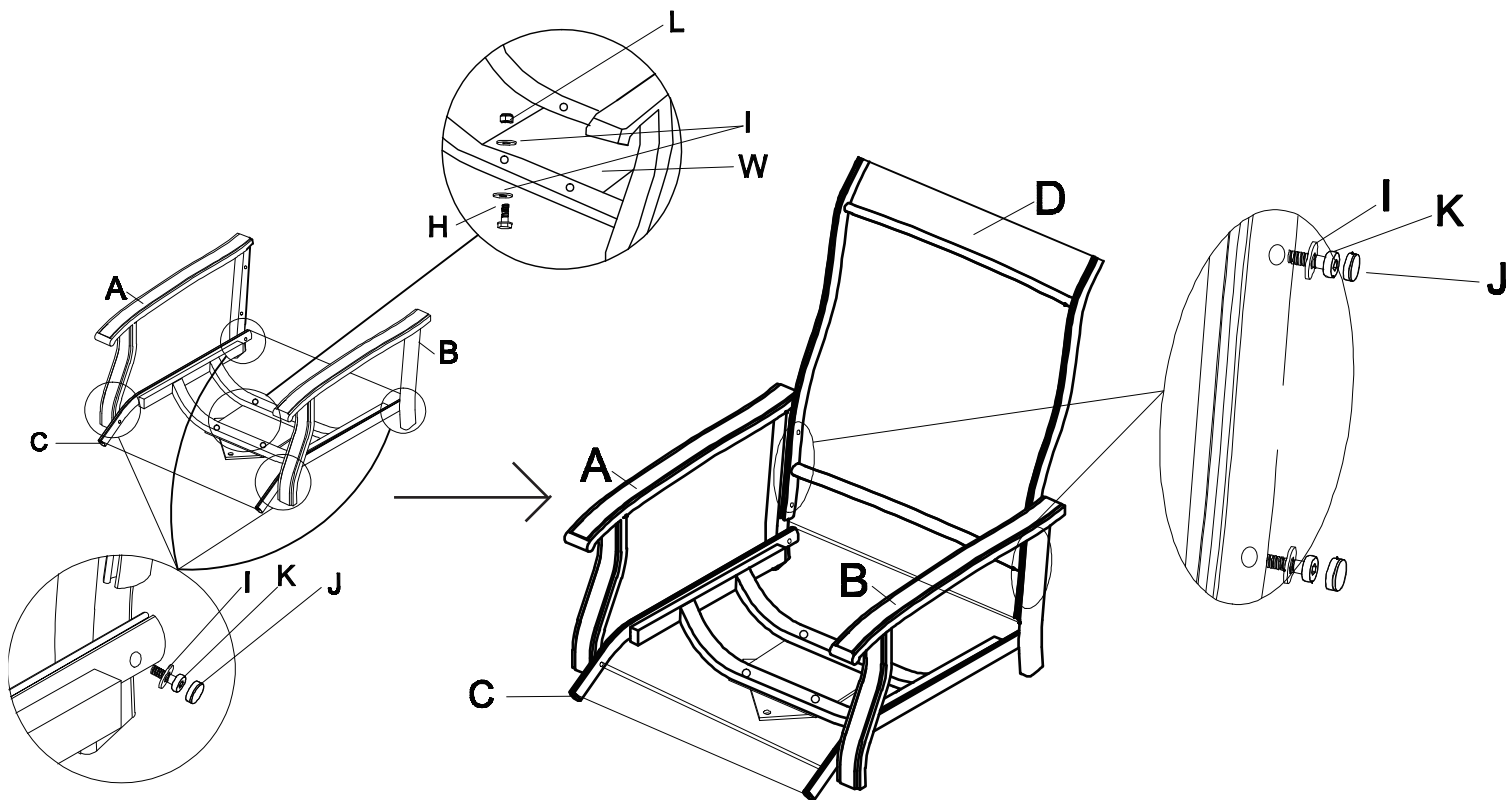

Figure 1
STEP 1 : First connect chair seat (C), armrests (A & B) and chair back (D) with washers (I), bolts (K) and bolt caps (J) as shown in Figure 1.